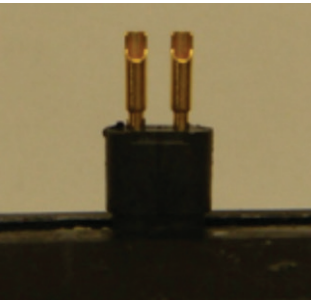

Figure 23: Before Degolding contacts
16. Degold all contacts by applying flux and then solder. Using solder wick, remove all excess solder from the solder cups (Figures 23–24).